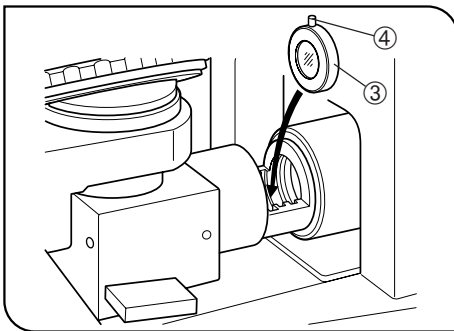

Fig. 27
3. Fit the polarizer ③ into the nearest slot of the filter holder with the protrusion ④ pointing right above. (The direction perpendicular to the protrusion is the vibration direction of illumination.) (Fig. 27)
5. Slightly rotate the polarizer ③ until the field of view is at its dimmest level so that the cross-Nicol position is obtained. (Fig. 27)
7. Rotate the polarizer ③ to change the vibration direction of illumination. To activate the open-Nicol position, rotate the polarizer until the protrusion points the right. (Fig. 27)